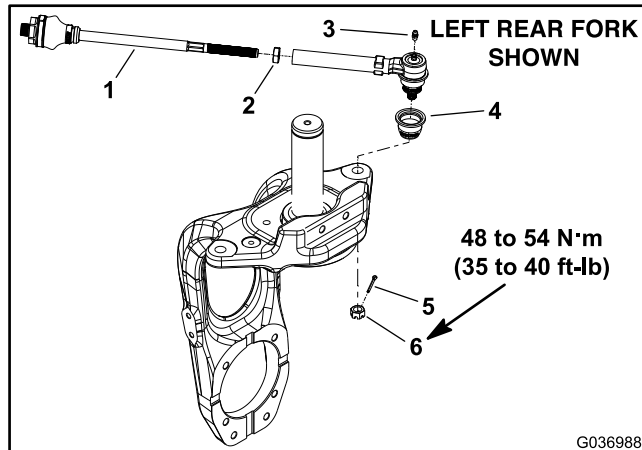

Figure 270
7. Remove and discard the cotter pin (item 5 in Figure 270) and slotted hex nut that secure the tie rod end to the steering fork.
7. Connect the tie rod end (item 1 in Figure 270) to the steering fork with the slotted hex nut; tighten the hex nut from **48 to 54 N·m (35 to 40 ft-lb)**. Install a new cotter pin.